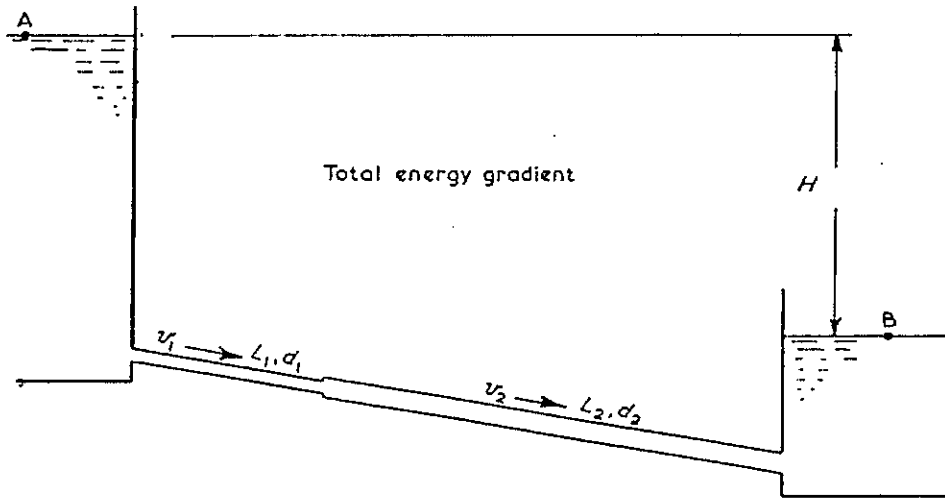

Figure 1/ Rajah 1
- b) Two reservoirs in **Figure 1** are connected by a pipeline which is 150 mm long. There is a sharp entrance to the pipe and the diameter is 80 mm for the first 175 mm. The pipe then enlarges suddenly to 150 mm in diameter for the remaining of its length. The flow rate of water entering the pipes is $0.005 \text{ m}^3/\text{s}$. Given $f = 0.01$ (Darcy Formula), calculate the losses of head which occur and solve the rate of flows in m^3/s .